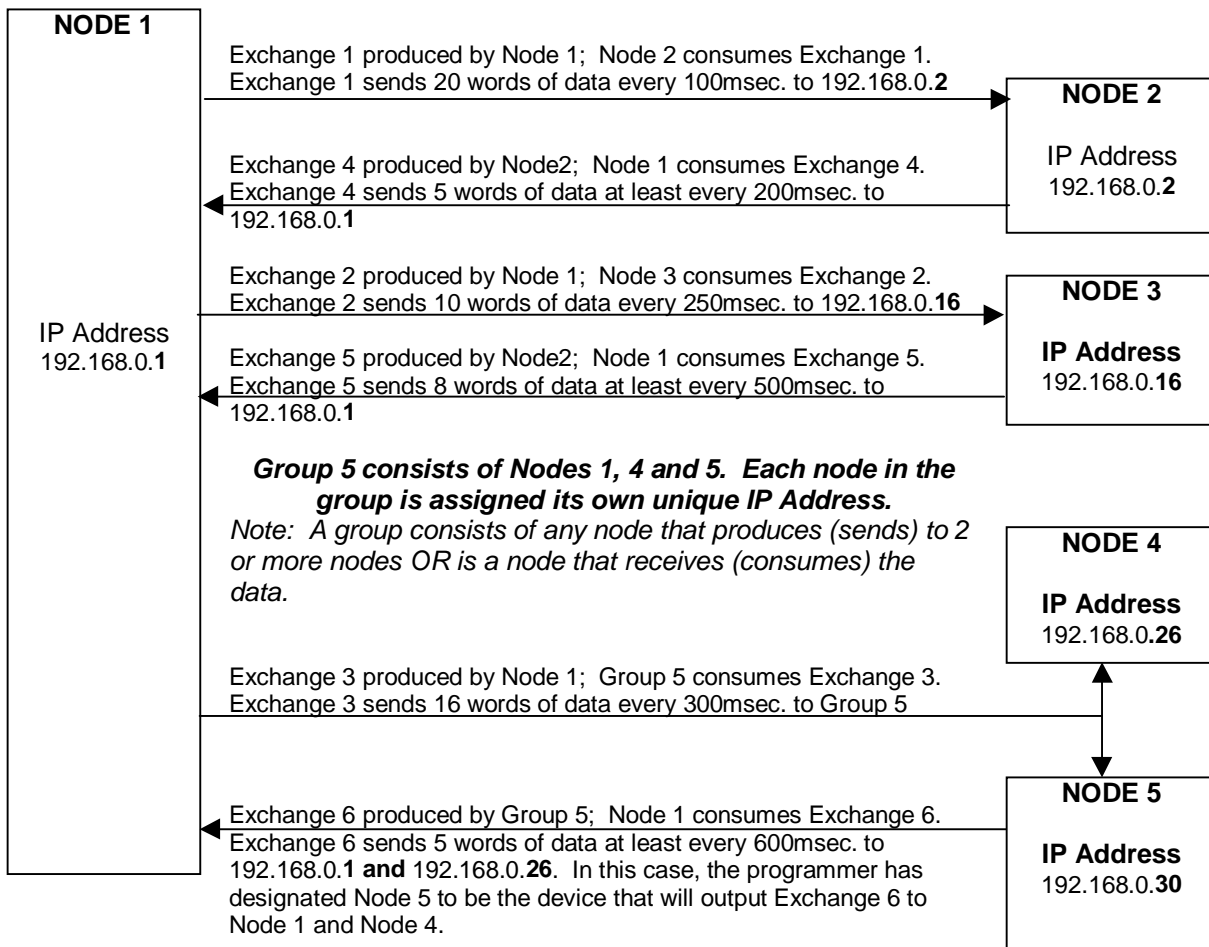

Figure 3.24 - Identifying Configuration Parameters for Node 1
In the following configuration example, Node 1 needs to *produce* (or send) various exchanges to different IP Addresses and to Group ID #5. Node 1 also needs to *consume* (or receive) various exchanges from different IP Addresses and Group ID #5. For this example, Figure 3.24 depicts how the nodes need to be configured to interact with one another in terms of Produced Exchanges and Consumed Exchanges.
Thus far, Node 1 has been configured to indicate that Exchange 1 will send 20 words of data every 100msec. to 192.168.0.2 (Node 2's IP Address). Exchange 2 will send data every 250msec. to 192.168.0.16 (Node 3' IP Address). Because Exchange 2 is not selected in this example screen, the user is unable to see how many words will be sent. Also, Exchange 3 will send data every 300msec. to Group ID #5. Again, , the user is unable to see how many words will be sent, because Exchange 3 is not selected. (Reminder: Refer to Figure 3.24 to recall the desired configuration parameters for this example.)
- If the exchange is going to be received from more than one device, enter the **Group ID** (**Figure 3.34**). For this example, the **IP Address** of Node 5 (192.168.0.30) is going to be entered as the **Producer ID**. The user (in this particular case) has designated that Node 5 will send out the exchange to all the group members (Node 1, Node 4, and Node 5). (Refer to Figure 3.24 to see how group members interact.)
Node 1 has been configured such that Node 1 is set to consume (receive) 5 words of data at least every 100msec. from Exchange 4. Exchange 4 is sent from 192.168.0.2. Node 1 is set to consume Exchange 5 at least every 500 msec. Exchange 5 is sent from 192.168.0.16. Also, Node 1 is set to consume Exchange 6 every 600msec. Exchange 6 is sent from 192.168.0.30, which is a part of Group 5. In this case, the user has designated 192.168.0.30 as the output device in the group. (Reminder: Refer to Figure 3.24 to recall the desired configuration parameters for this example.)